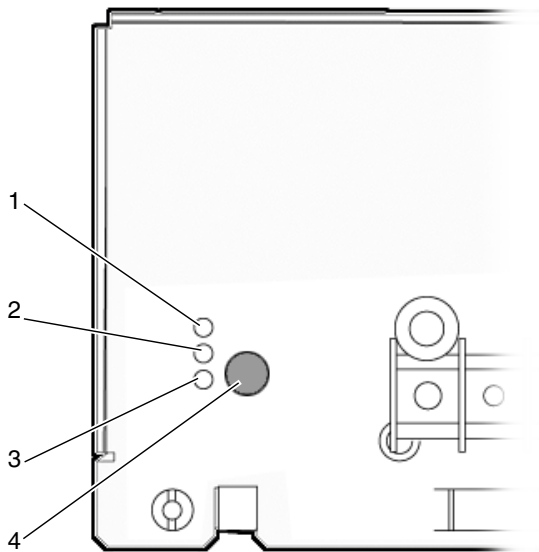

FIGURE 5-1 Locating the Hot-Swap Button and LED
Under normal operation, the green OK LED on the power entry module should be lit, indicating that the power entry module is getting power. If there is a failure in the power entry module, the red Failure LED lights up (FIGURE 5-1).
TABLE 5-1 Legend for FIGURE 5-1
- 2. Press the Hot-Swap button on the power entry module that you want to remove (FIGURE 5-1).**
- If the blue Hot-Swap LED flashes for a moment, and then lights up to a solid blue (FIGURE 5-1), the power entry module is okay to remove. Go to Step 3.